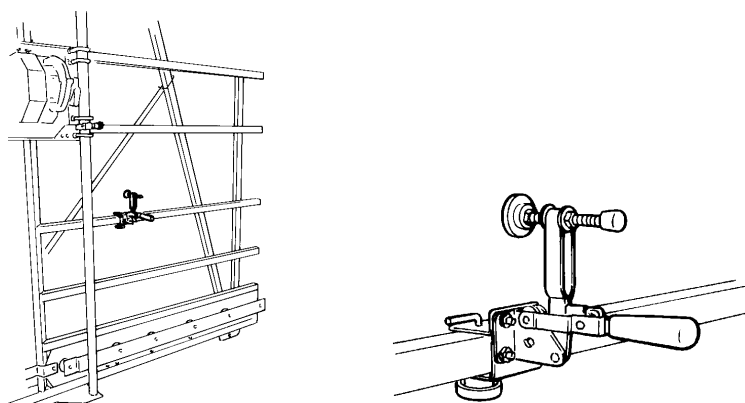

Figure 29: Adjustable Clamp (Routing)
3. Attach the adjustable clamp(s) on the frame as shown in Figure 29: insert the L-screw down through the hole in the clamp mounting bracket and secure with the red knob.